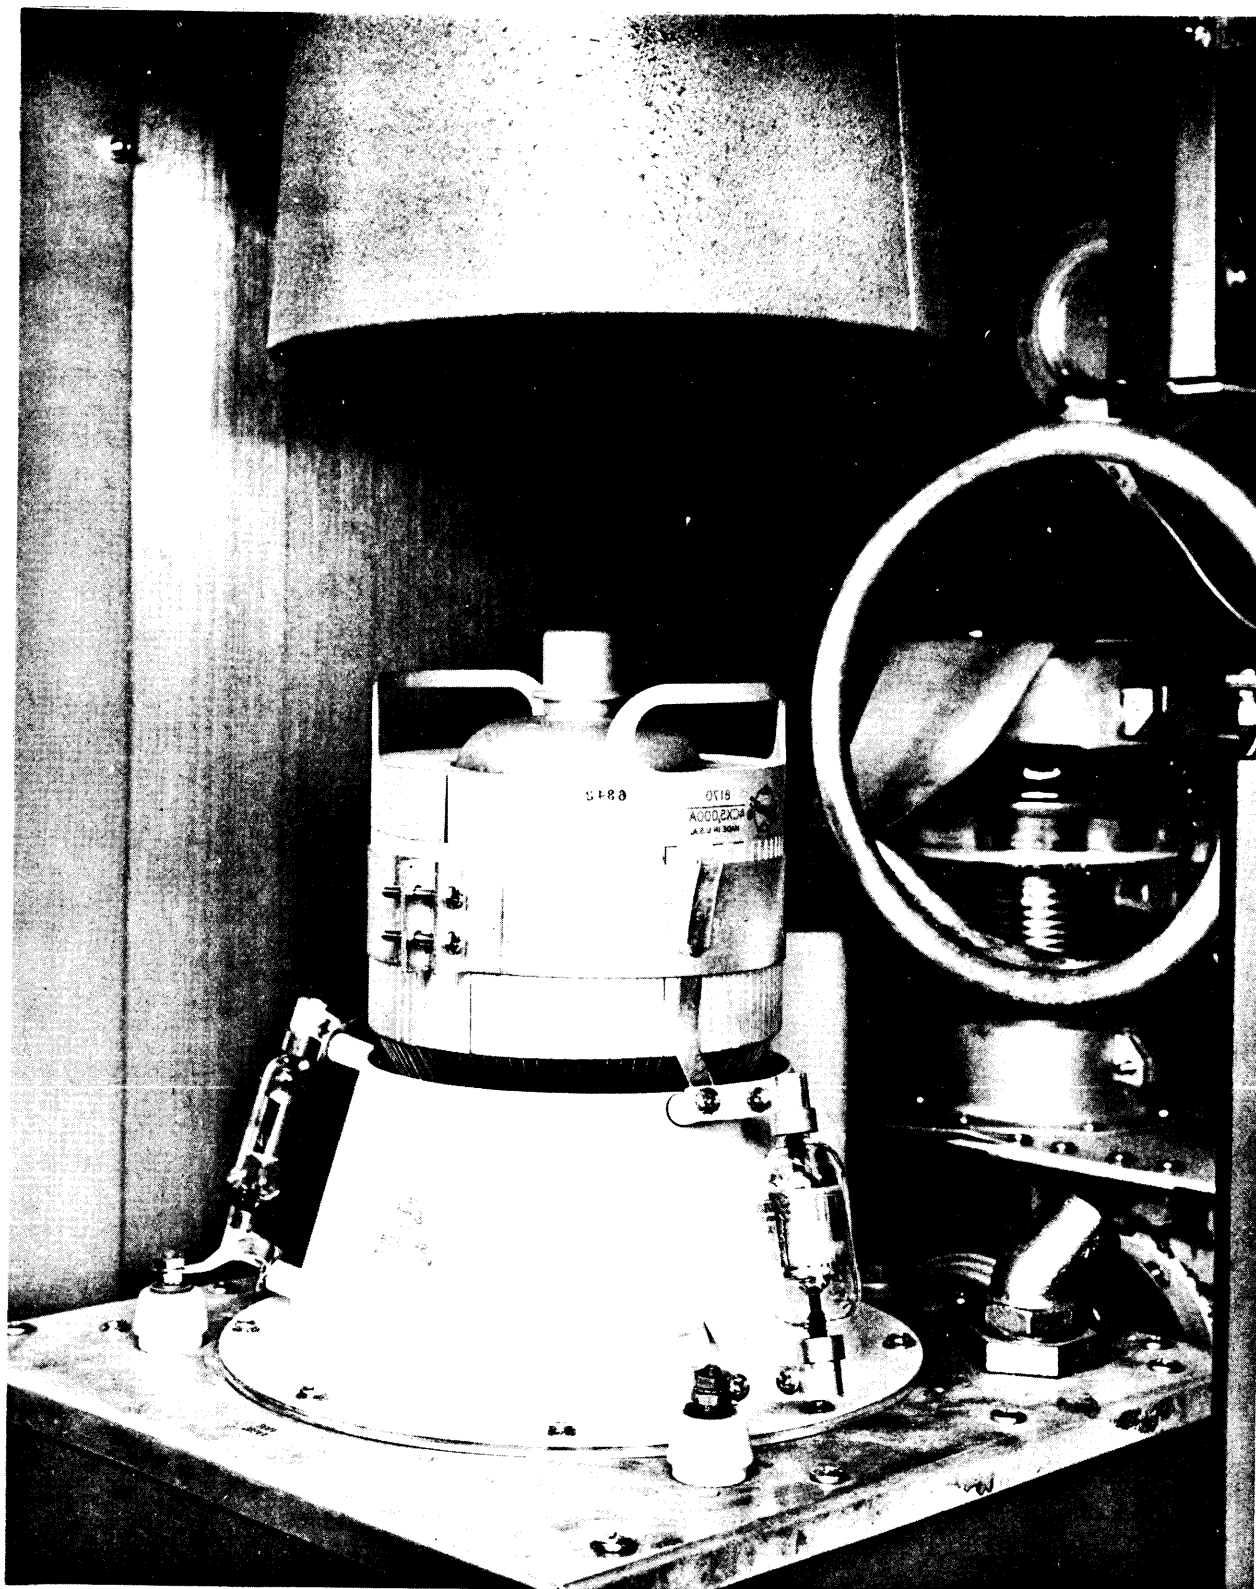

Figure 2-8. Upper Compartment of Second Frame,
a. Loosen hardware on retaining strap (figure 2-8).